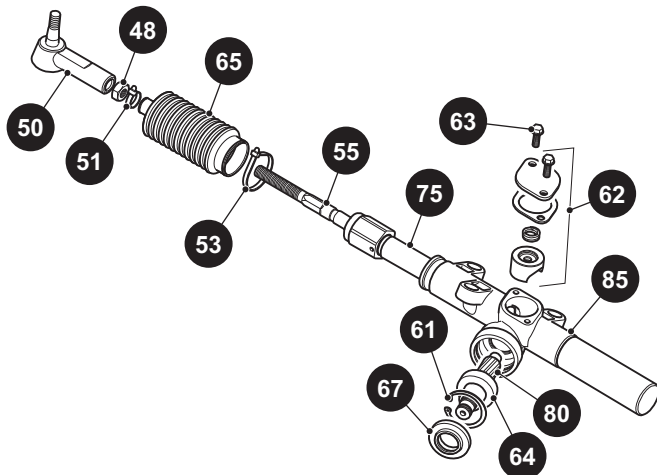
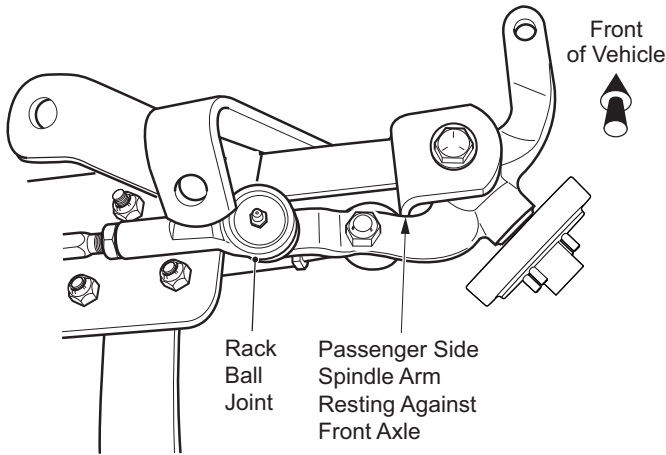

Fig. 16 Rack and Pinion Unit Disassembly
Fig. 17 Spindle Contact with Front Axle
2. The rear spindle arm on the passenger side **must rest against** the front axle (Ref Fig. 17). If it does not, all adjustment is made at the rack ball joint (50) (Ref Fig. 16).